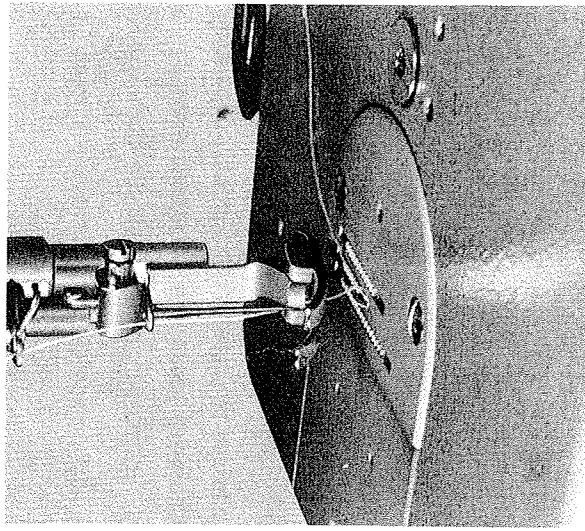

Fig. 7
- 2) Now pull the end of the upper thread you are holding and the bobbin thread will be brought up with it through the needle hole in the needle plate, as shown in Fig. 7.